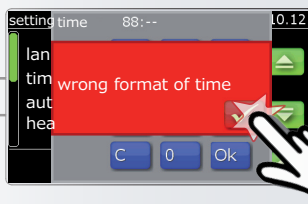

Fig. 19
**PLEASE NOTE:** If an incorrect time format or date format is entered, a message appears to make you aware of it. You can acknowledge the message by pressing the OK button and repeat your entry (Fig. 19).